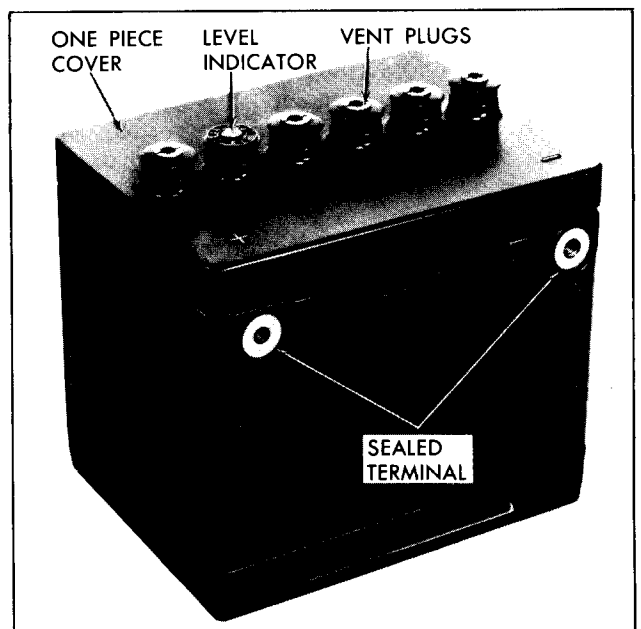

Figure 1—Energizer
**NOTE:** Current production batteries are not equipped with the "Delco Eye" level indicator as shown in Figure 1. In addition the vent plugs are now equipped with a sintered carbide insert which acts as a flame arrestor.
The energizer (figure 1) is made up of a number of separate elements, each located in an individual cell in a hard rubber case. Each element consists of an assembly of positive plates and negative plates containing dissimilar active materials and kept apart by separators. The elements are immersed in an electrolyte composed of dilute sulfuric acid. Plate straps located on the top of each element connect all the positive plates and all the negative plates into groups.
The lead-acid Energizer or storage battery (figure 1) is an electrochemical device for converting chemical energy into electrical energy. It is not a storage tank for electricity as is often believed, but instead, stores electrical energy in chemical form.